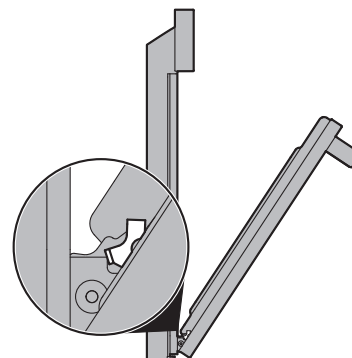

Figure 17: Removal position
3. Grasp the door by the sides, and close the door until the door frame makes contact with the unlocked hinges (Figure 17).
2. Hold the oven door at the same angle as the removal position (Figure 17). Carefully insert the hinge levers into the oven frame until you feel the hinge levers are seated into the hinge notches. The hinge arms must be fully seated into the hinge notches before the oven door can be fully opened.